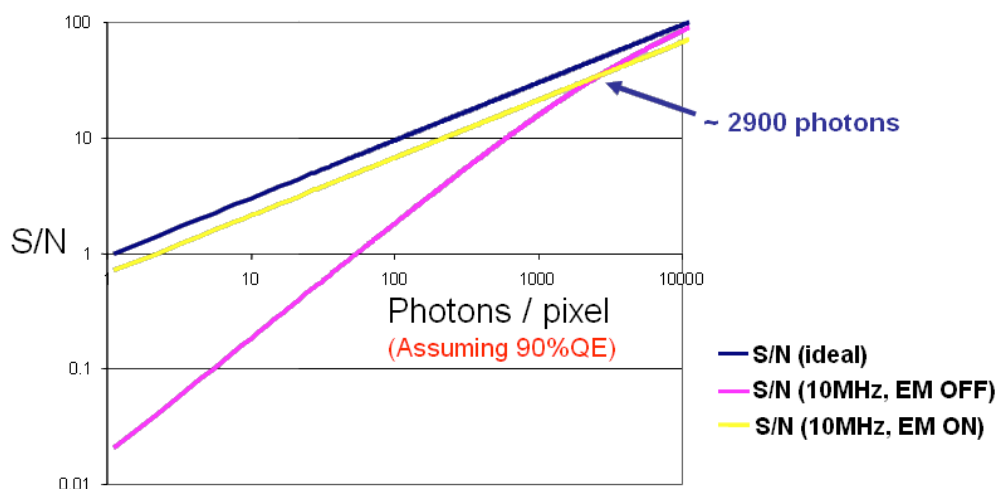

Figure 12: Signal to noise plots EM Gain ON vs. EM Gain OFF for back-illuminated iXon Ultra EMCCDs at 10MHz readout speed
Signal to Noise (**S/N**) plots derived from the specifications of the back-illuminated iXon Ultra EMCCDs (**Figure 12**), read out at 10MHz for a photon wavelength at which the **Quantum Efficiency (QE)** of the sensor is assumed to be 90%. Such plots are very useful to gauge at what signal intensity it becomes appropriate to use EM Gain to increase S/N.